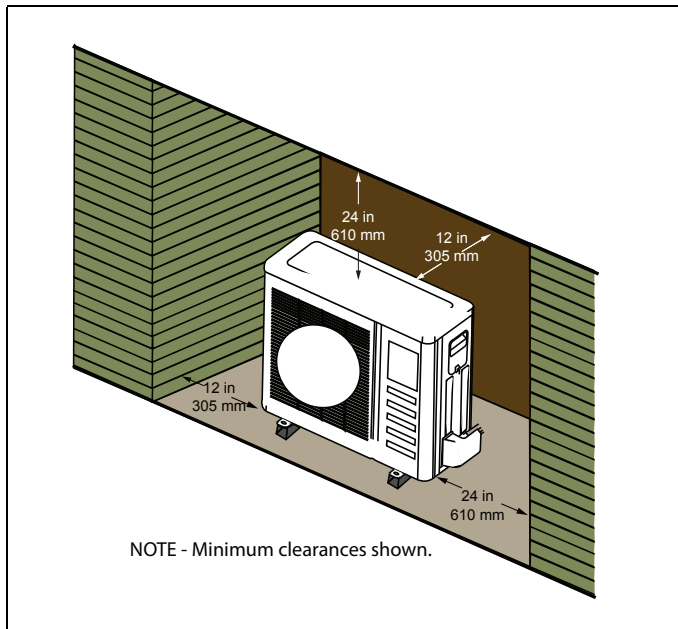

**Figure 11. Wind Barrier**
- When prevailing wind is into the discharge side, then position the wind barrier a minimum 79 inches (2007 mm) from the front of the unit as illustrated in “Figure 11. Wind Barrier”.